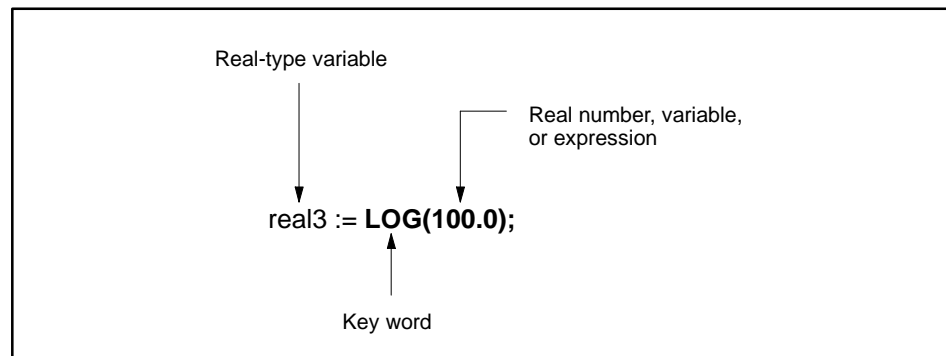

Figure 11-34 LOG Function
- The returned value is also a real number. For example, in Figure 11-34, the value of the variable, **real3**, is 2.0.